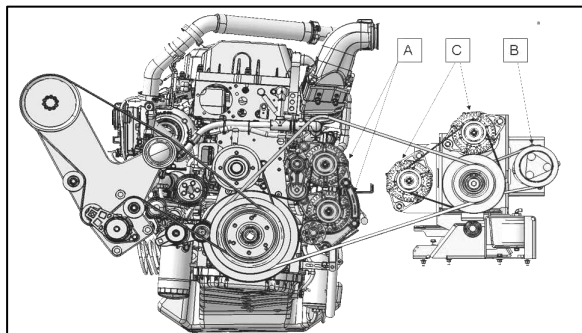

FIGURE 37: VIP WITH SMALL COMPRESSOR LAYOUT
- Slacken bolts fixing small compressor (figure 37).